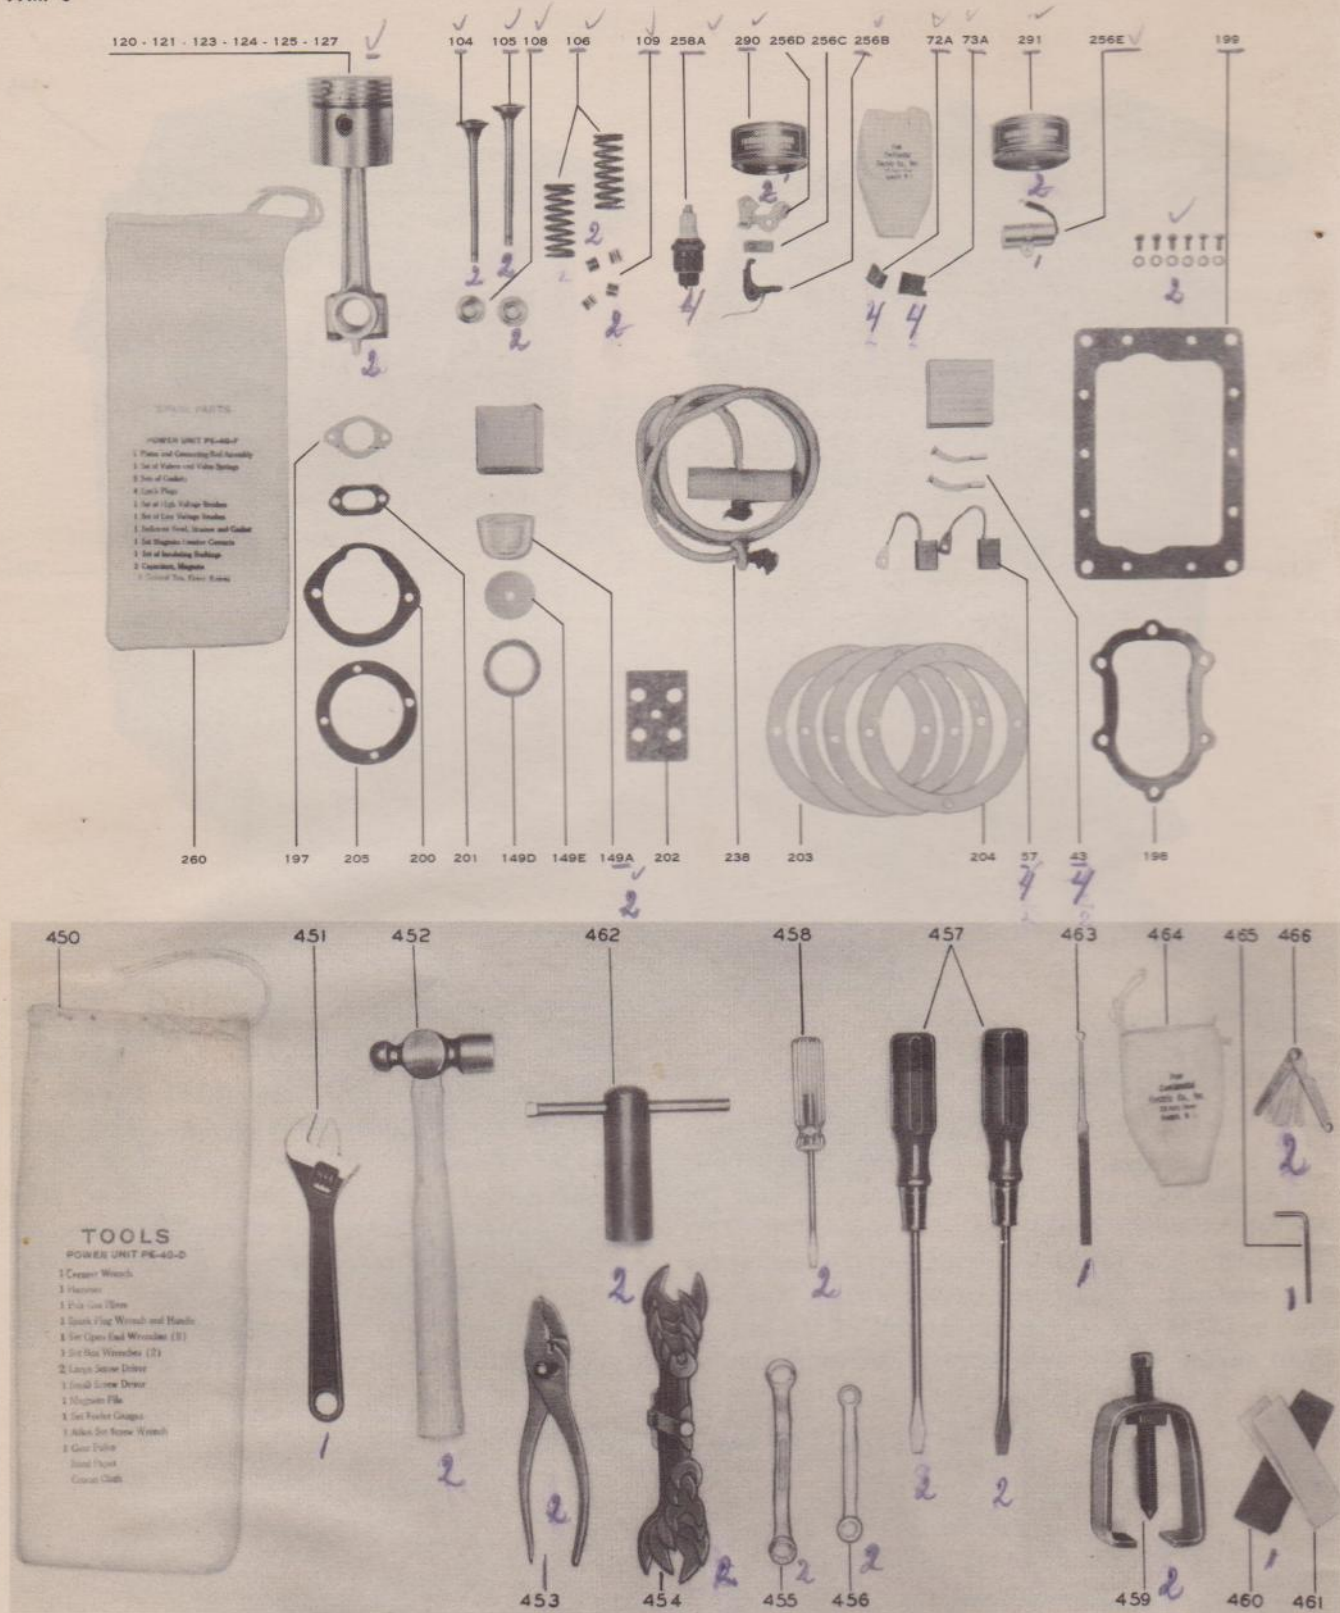

FIG. 8 SPARE PARTS AND TOOLS
(1) A tool bag with contents as printed on the bag. See Fig. 8.
(2) A spare parts bag with contents as printed on the bag. See Fig. 8.
(3) Three complete sets of engine gaskets packed in a stiff cardboard folder. See Fig. 8. This folder is designed to fit snugly against the back end of the compartment. Keep it there so that the gaskets will not become damaged.
(4) Always keep track of the tools by checking against the list of the tools which is printed on the tool bag. These tools are very complete and very important for maintaining and repairing the power unit. A small wrench which is missing may mean the difference between a properly operating Power Unit PE-49-F and one that will not operate at all. Keep the tool bag in the compartment where it belongs.